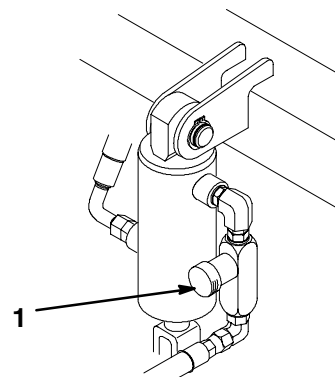

Figure 43
The cutting unit lift/drop circuit is equipped with a flow control valve (Fig. 43). This valve is preset at the factory at approximately 3 turns open, but an adjustment may be required to compensate for differences in hydraulic oil temperatures, mowing speeds, etc. If an adjustment is required, proceed as follows:
1. Raise the seat and locate the flow control valve (Fig. 43) mounted to the hydraulic cylinder for the center pull frame.